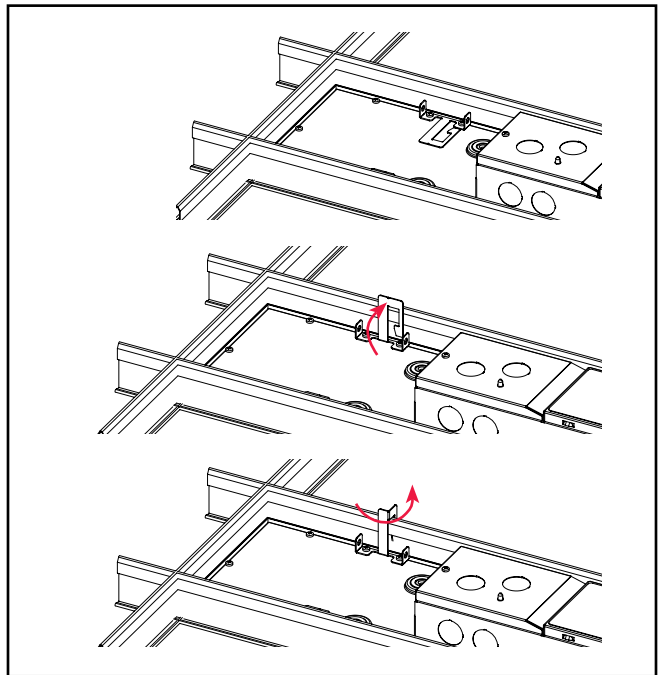

Figure 4.
6. Orient all tabs on back of fixture over T-GRID by bending tabs up 90 degrees perpendicular to back of fixture. Next bend tabs 90 degrees towards T-GRID frame. (Figure 4.)